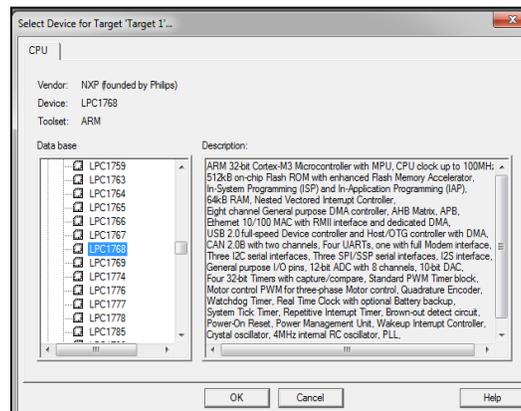

Fig 4: Selecting LPC1768 Target Device
6. Next you will see a window open prompting to "Select Device for 'Target 1'..." as seen in Fig 4. This window is the Keil Device Database and lists all devices that Keil supports in uVision.